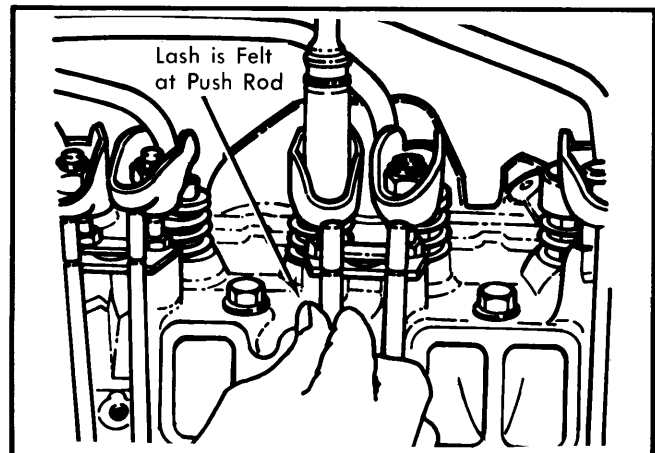

Fig. 6 Adjusting Valve Lash
2) Adjust valves by backing off adjusting nut until lash is felt at push rod, then tighten until all lash is removed. Tighten adjusting nut an additional 1½ turns. See Fig. 6. Rotate crankshaft to No. 4 firing position and adjust following valves: